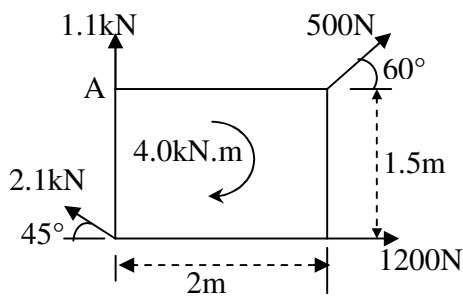

Fig.3(Q:4(a))
- Q.4** (a) Determine the resultant and locate the same with respect to point 'A' of a non-concurrent force system shown in fig.3. **07**